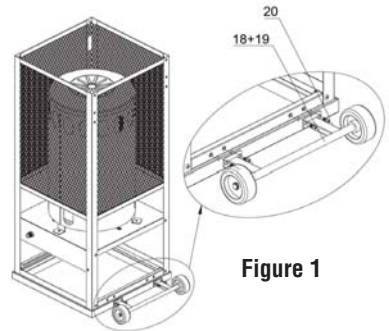

Figure 1
1. Install the wheel assembly (#18-19) to the base assembly (#3) with 4 M4 x 10 bolts. (#20) (Fig. 1).